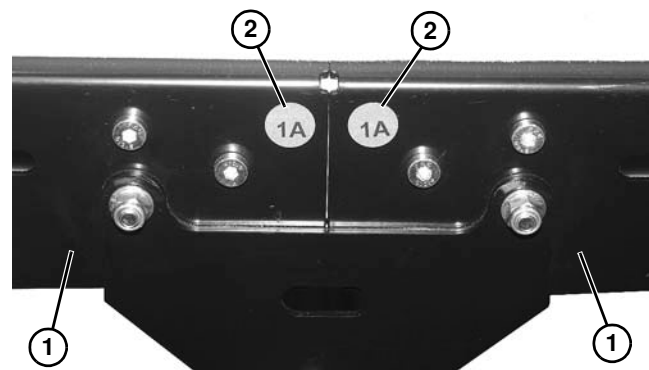

Figure 4
1. Locate and arrange conveyor sections (**Figure 4, item 1**) by section labels (**Figure 4, item 2**).